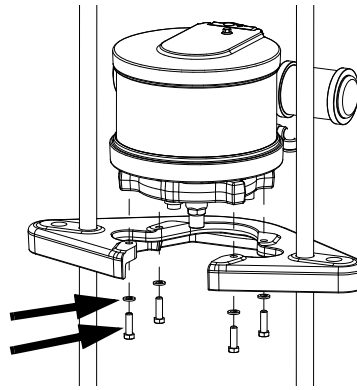

FIG. 20: 60 Liter (16 Gallon) Platen or 20 Liter (5 Gallon) Platen
- b. *For 60 liter (16 gallon) platen:* Remove screws and washers securing motor to mounting plate. See FIG. 20.
1. Attach motor to mounting bracket with screws and washers. See FIG. 20 on page 24.